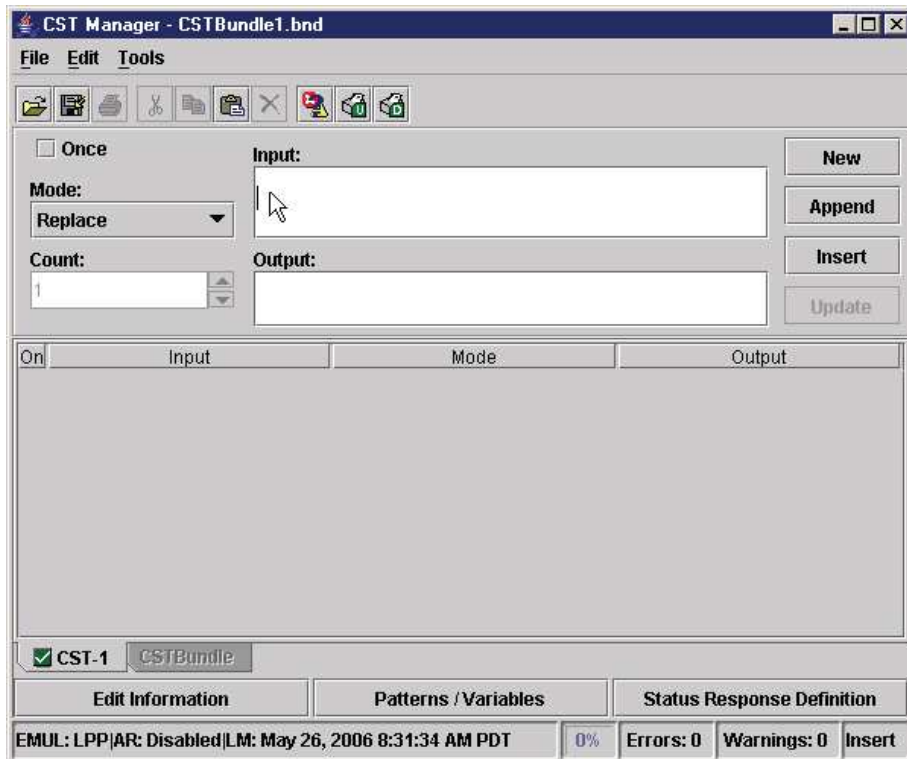

Figure 154 Selecting the Input Field
15. Click the **Input** field to place the cursor. See Figure 154.